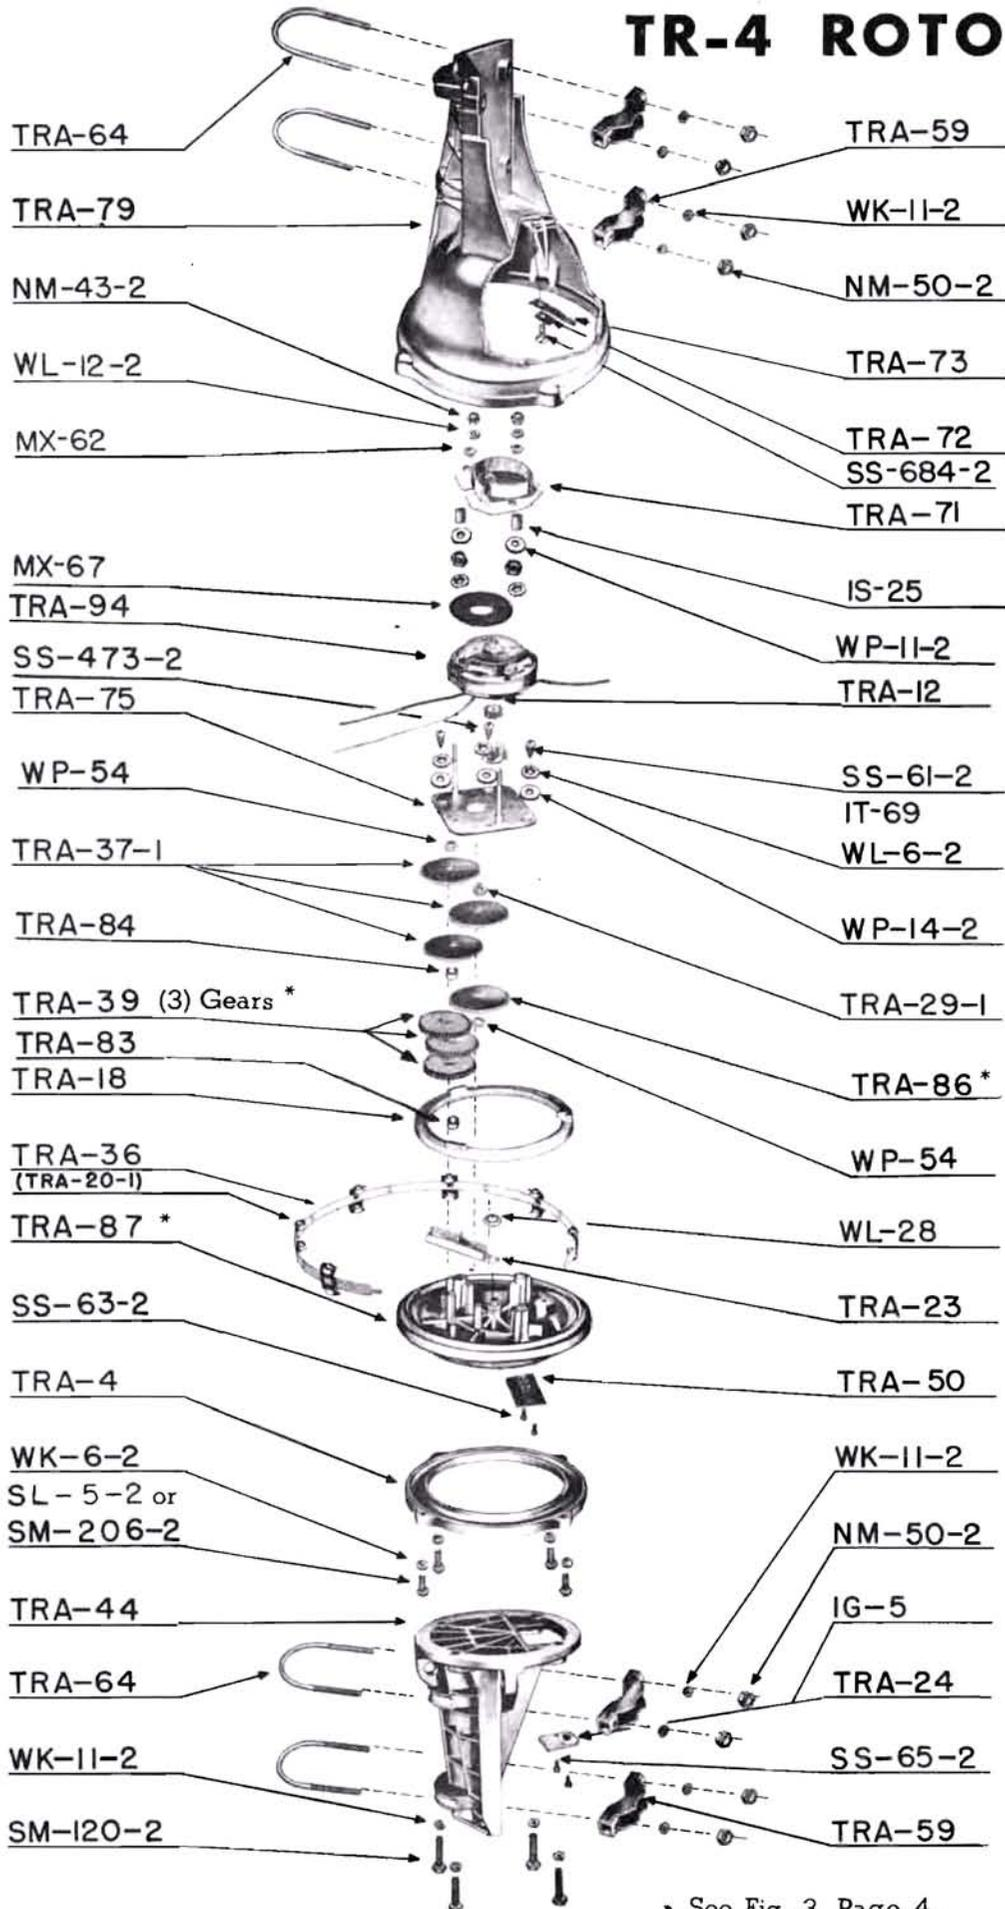

Fig. 4
Check for your difficulty by using the trouble shooting chart included in this bulletin. In the exploded view (Fig. 4) the individual parts of the Rotor with their part numbers are shown. Use this reference to order parts by the proper part number.
4. The entire electrical system of the rotor can be removed without unsoldering any connections. First remove the screws (SS-63-2) that hold the terminal strip (TRA-50) to the rotor base. (Check exploded view Fig. 4). Shift the terminal strip until it can be slipped through the hole in the rotor base. Remove the screw that holds the small terminal strip (IT-69) to the motor mounting plate. Remove the two hex nuts and shoulder